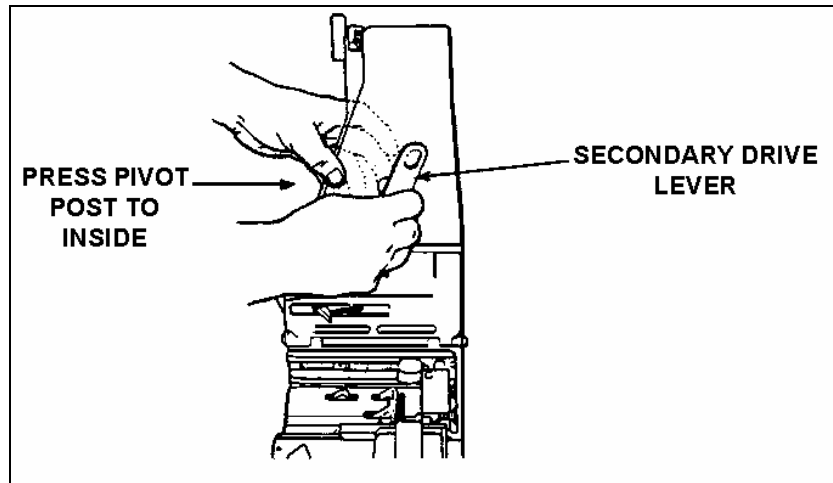

Figure 2-11. Secondary drive lever removal.
- (1) Clear the weapon.
- (2) Take out the secondary drive lever by following these procedures:
- (b) Separate the secondary drive lever from the top cover assembly (Figure 2-11).